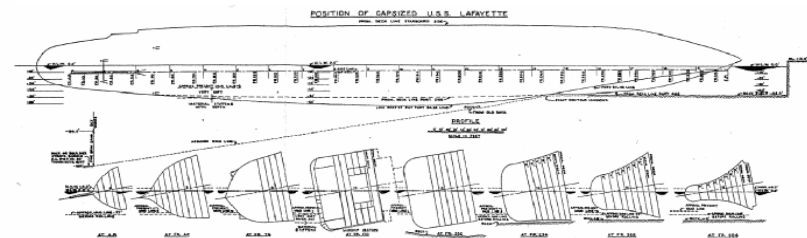

Figure 17
4. Likewise methods of salvage, either for scrap or for the intact hull, involving the construction of cofferdams around the ship or the application of external force applied through mechanical means or both, were discarded because conditions as they existed would not permit their use at a reasonable cost in time and money. Also, if they were used and if successful, they offered only a partial solution, as in either case the vessel still had to be floated upright, and it was very doubtful that success could be attained by those methods on account of the nature of the bearing supporting the wreck. Figure 17 shows the approximate bearing condition of the capsized ship, indicating that bearing was one of the controlling considerations not only in choosing the method of salvage, but in permitting its accomplishment.